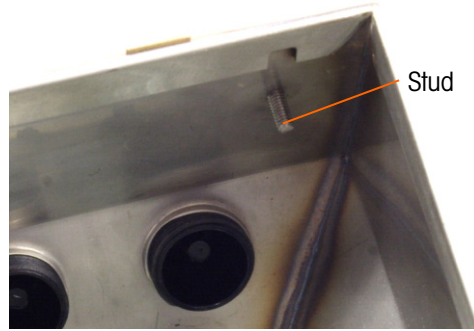

Figure 2-10: Stud for Attaching Reversed Front Panel
4. Carefully rotate the rear of the enclosure 180 degrees and reattach the two grounding straps to the two studs near the grip bushings using the two nuts removed in the previous step. Figure 2-10 shows one of the studs. Tighten the two nuts.